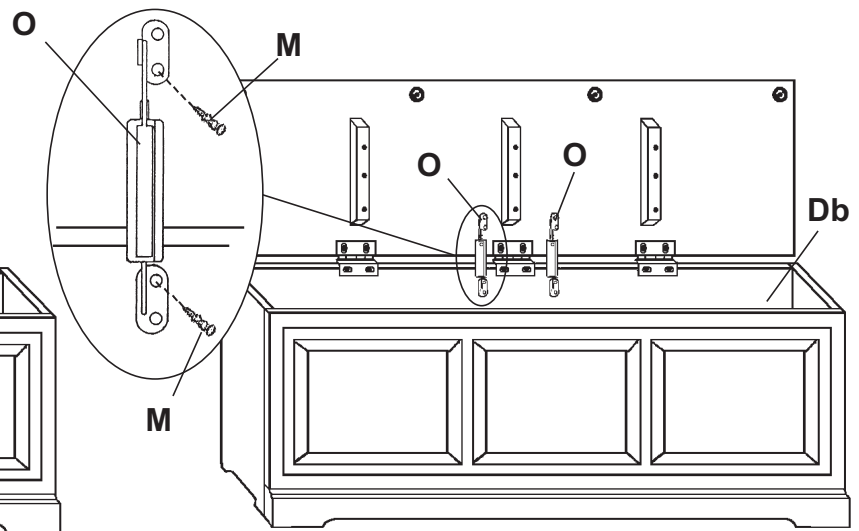

Fig. 5
5. Attach a Lid Support (O) to the top and back with #6 x 3/4" Brass Flat Head Screws (M). The long arm should be toward the top. There is a hole predrilled in the Top (A) for the innermost screw and in the Back (Db) for the highest screw. See Figure 5. Repeat for the other lid support.
6. Spread a thin layer of glue on the top edge of both Bottom Supports (H). Tilt the Bottom (E) up and slide it onto the bottom supports. Press firmly into place. Turn the cedar side up if you want the cedar aroma.